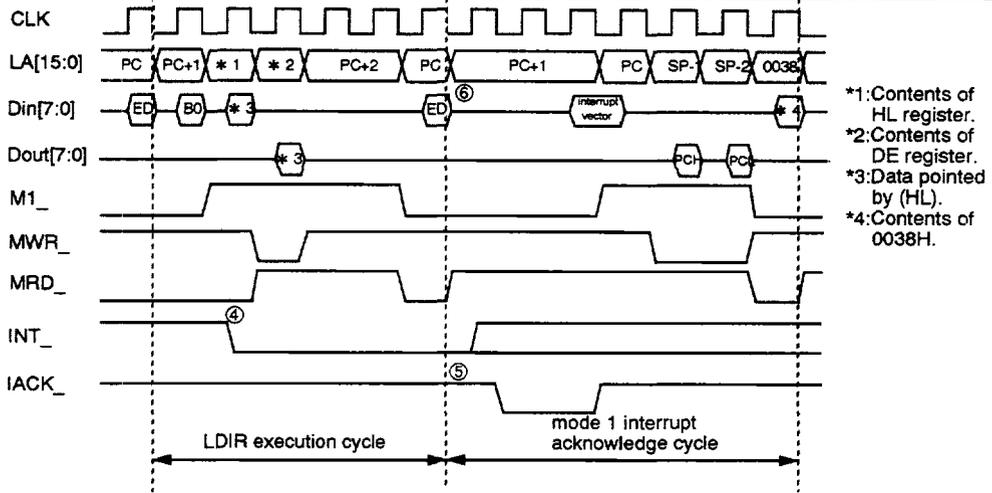

Figure 5-19. Interrupt acknowledge cycle in mode 1
For example, under normal condition, the prefetched instruction, at address 1000h, data 77h at ③ in Figure 5-15 on execution of the instruction, JP 1000h is held and execute correctly. However, on interrupt the prefetched instruction will be discarded and refetch on return from an interrupt service routine. On interrupt recognition, PC is decremented by one before saved onto stack. On RETI or RETN instruction the PC will be loaded with the address of the discarded instruction. Figure 5-19 has the timing diagram for the case of receiving interrupt in mode 1 when executing LDIR instruction. In the figure, the data "EDh" prefetched at ⑥, is discarded and then go to interrupt service. On return, the CPU resume from the prefetch of this "EDh". For the bus request cycle, the data "EDh" prefetched at ⑥ prior to the bus request will be kept, and on bus release the CPU starts to prefetch from the next address to the "EDh" as shown in the Figure 5-18.
The Figure 5-19 show the interrupt acknowledge timing. In this figure, an interrupt is accepted during block move instruction. ④ shows that when an interrupt request occurs, the interrupt will not be accepted until the prefetch cycle of the last instruction, ⑤. In this case, the data "EDh" fetched at ⑥ will not be kept by the CPU, and it will be refetched on the return from an interrupt.